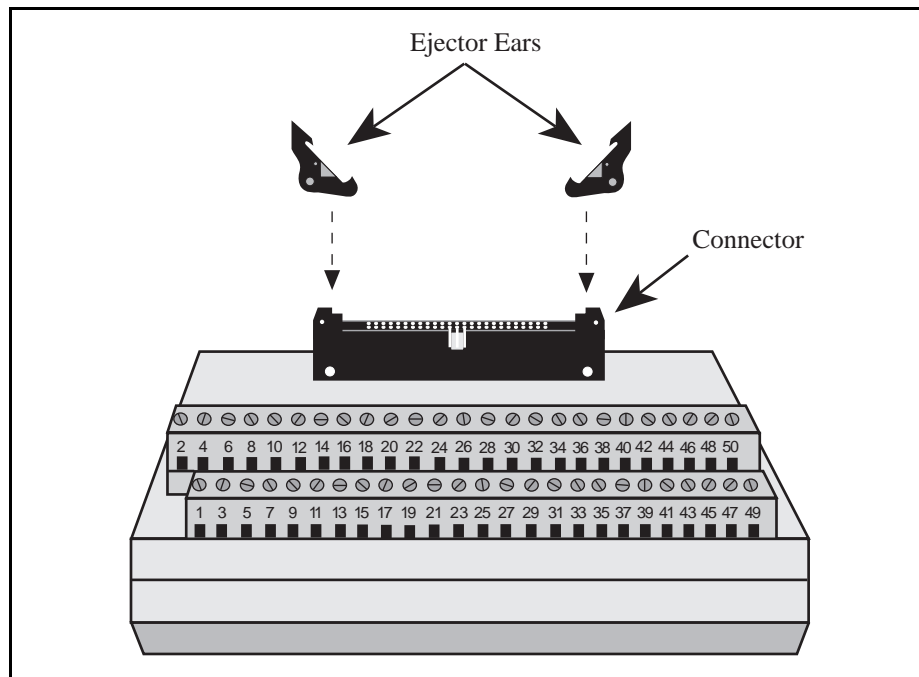

Figure 2. Inserting the Ejector Ears into the Connector Block
3. Insert the ejector ears into the connector block as shown in Figure 2.